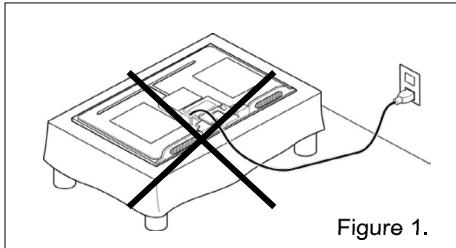

Figure 1.
10) During the repair, DO NOT leave the POWER ON or Burn-in period for more than 1 hour while the TV is facing down on a cloth. Refer Figure 1.